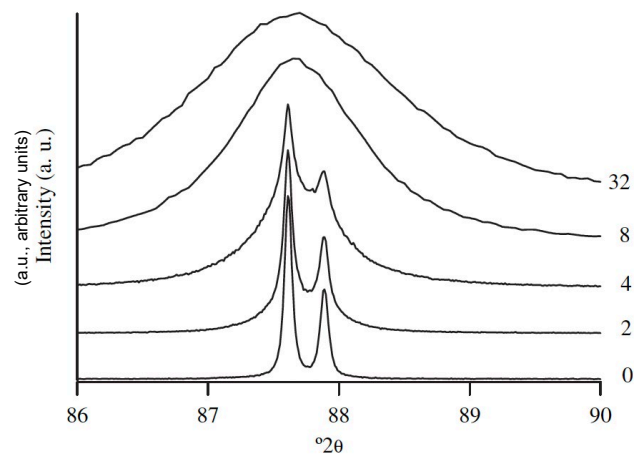

Figure Q1c
- (c) A Mo powder was ball milled for different times and analysed by powder XRD. The results are shown in Figure Q1c. Explain exactly what causes the observed changes to the shape of the X-Ray diffraction peaks. [5 marks]